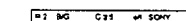

Fig. 23
- 6 After selecting all the characters, press OK repeatedly until the cursor appears by the next programme position (at the left margin). Now the caption you chose is stored. (See Fig. 23.)